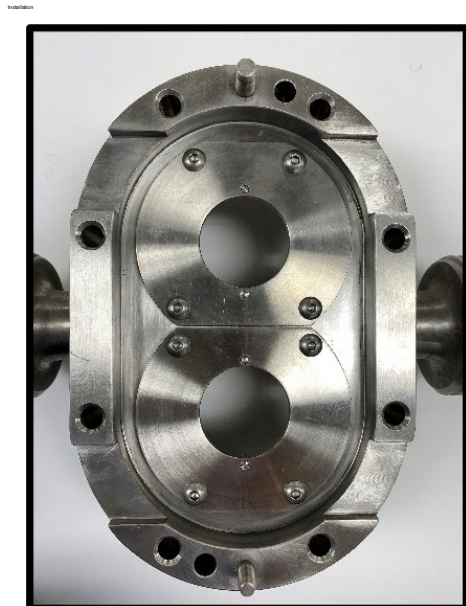

Figure 64 Seal housings installed
6. Figure 64 shows both seal housings installed.